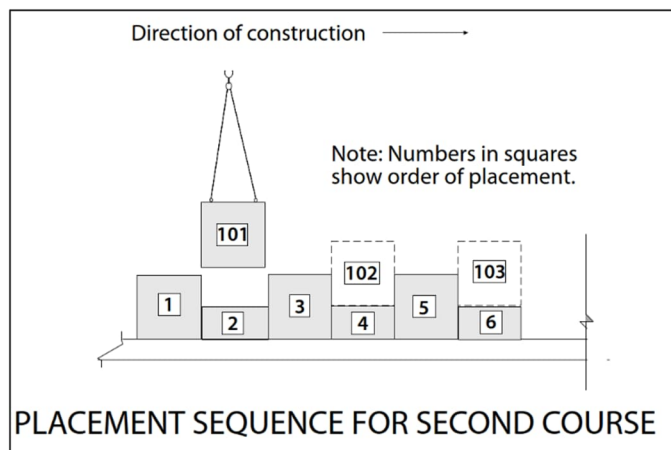

Figure 30: Placement sequence for second course.
Begin the second and subsequent courses of panels at the end of the wall where construction began (Figure 30).
holding A panels (2) and (4) to B panel (3). As each course proceeds, remove only two clamps at a time to allow for setting of each new panel. To prevent concrete-to-concrete contact at horizontal joints, set two bearing pads onto the top edge of panel (3). Refer to Figure 30.
**STEP F-3:** Set A panel (101) onto B panel (2) (Figure 30), centering the panel to ensure equal vertical joints and matching the panels front face to that of panel (2). Set the batter of the panel the same as the first course using wedges at the ear. Clamp the new A panel (101) to the initial course panels (1) and (3). Don't over tighten the clamps as they may remove the batter set in the panel (101).
**STEP F-4:** Remove the next pair of clamps; place bearing pads onto the half panel (4); and set A panel (102) onto it. Match the face of the panel just placed to that of the panel below and set its batter. Clamp the panel (102) to adjacent panels (3) and (5).